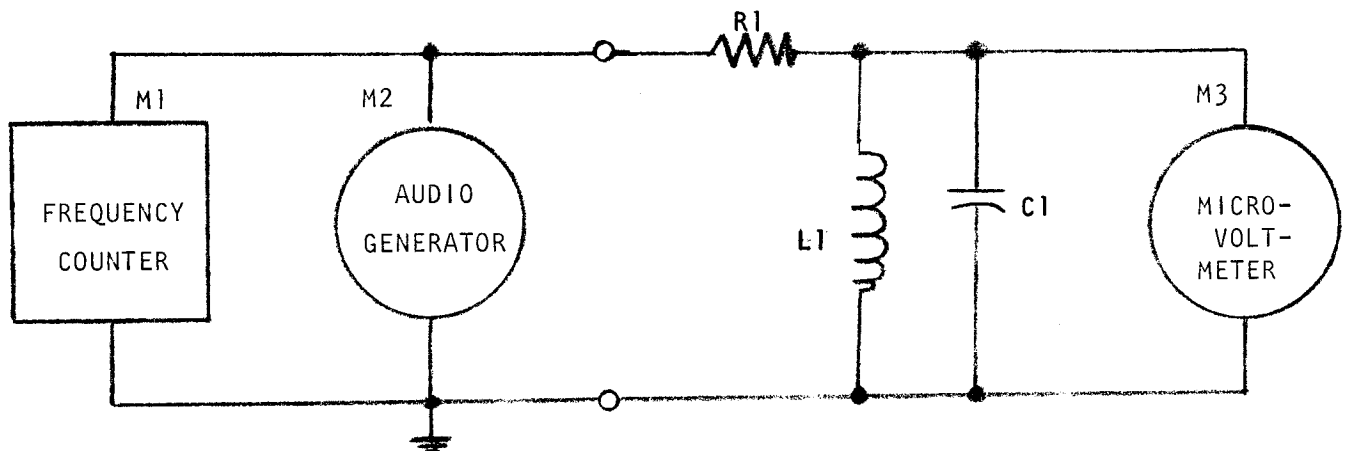

Figure 1
4. Use test set up as shown in Figure 1 and test as follows: